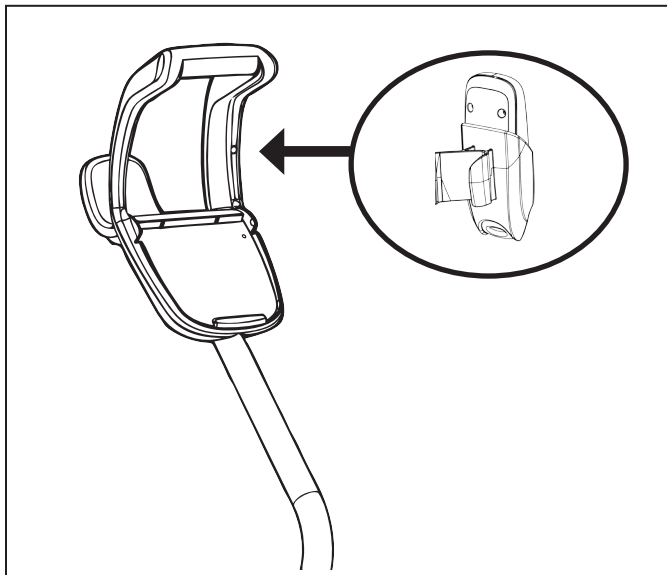

Figure 8. Snap Remote Control Holder into Place
9. **(3510 WD)** Locate pin on the remote control holder and align it with the receptacle on the handle of the caddy to attach the remote control unit to caddy (Figure 8).